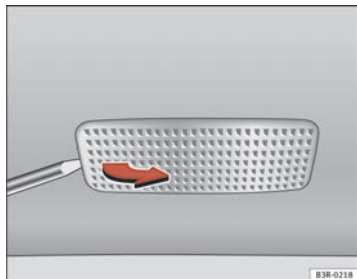

Fig. 241 Removing sunvisor light
- Remove the bulb carefully, using the screwdriver on its flat side ⇒ fig. 241.